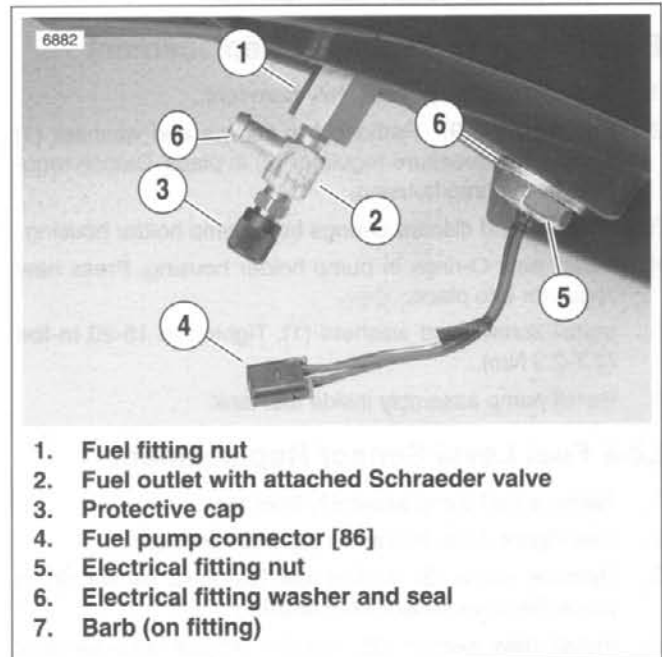

Figure 4-95. Fuel Pump Within Tank
4. See Figure 4-95. Remove fuel fitting nut (1).
5. Remove electrical fitting nut (5) and washer/seal (6).